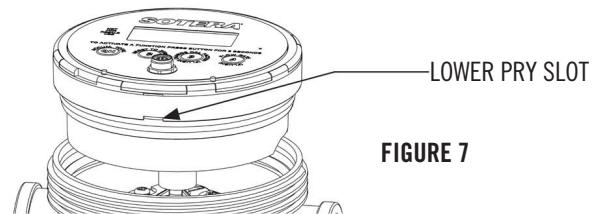

FIGURE 7
2. Unscrew meter cap (item 1, page 12). Use a strap type oil filter wrench or large 5" jaw pipe wrench if necessary.
3. Insert a flat-head screwdriver in the lower slot (see Figure 7) and turn to pry up meter cover (item 6).